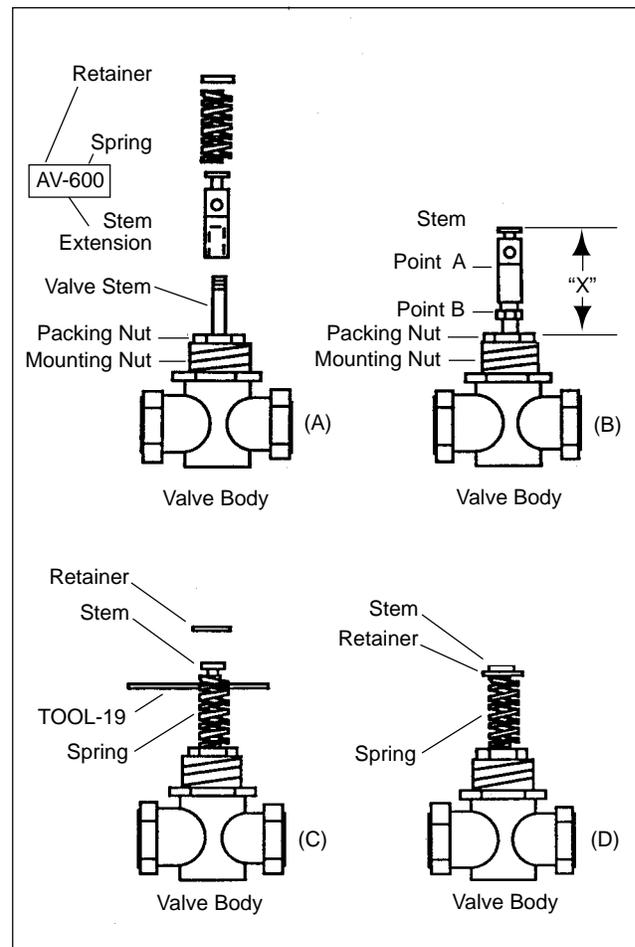

Figure 3. Assembly of AV-600 to Valve
2. When assembling be sure to maintain the stem height "X" shown in Table 3. In Figure 3 (B), "X" is the distance from the top of the stem extension to the top of the packing nut.
6. Using 3/8" wrenches on stem extension at points A and B, turn wrench at point A counterclockwise while holding wrench at point B stationary. See Figure 3 (B). The nut portion on the stem extension/lock nut combination will separate from the stem extension. Jam the lock nut against the stem extension to make the stem extension secure to the valve stem.
8. Insert TOOL-19, a 1/8" diameter rod, through spring coil and hole in stem extension. See Figure 3 (B).